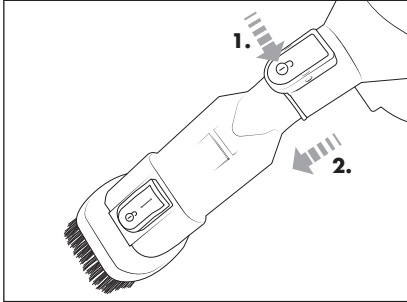

Fig. 9
- ◆ To remove the 2-in-1 combination brush **8** from the appliance, hold the release button **17** pressed. Then pull the 2-in-1 combination brush **8** off the suction opening of the appliance (see Fig. 9).